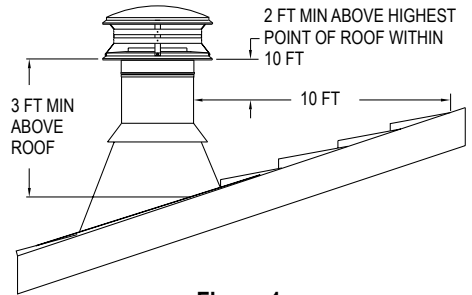
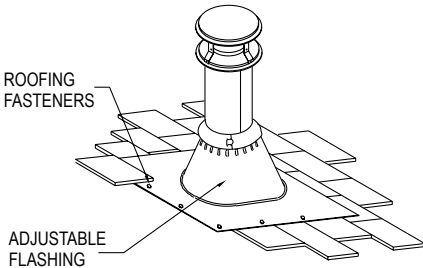
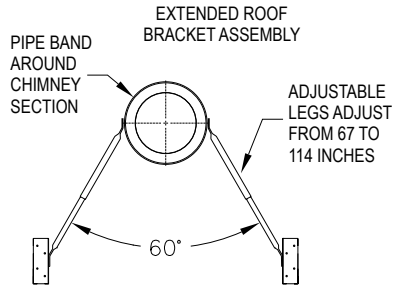

Figure 1
Figure 12
Figure 16
The National Fire Protection Association Standard #211 states: "Chimneys shall extend at least three feet above the highest point where it passes through the roof of a building, and at least two feet higher than any portion of a building within ten feet." (Fig 1) DuraTech Chimney may be installed up to 60 feet high. If the chimney extends more than 5 feet above
chimney above the roof. Allow space to permit sliding the next Chimney Section up through the Flashing. Always insure the chimney remains vertical (use a level), and that at least a 2-inch clearance to combustible materials is maintained all around. Install the upper edge of the Flashing under the roofing. Nail to the roof along the upper edge and down each side with 1-inch roofing nails. Do not nail the lower edge of the Flashing (**Fig 12**). Seal top and upper sides of flashing with roofing compound or sealant. Be sure to follow local building practices, as needed. Seal all nail heads with a non-hardening waterproof sealant. On flat or tarred and graveled roofs, nail and seal the Flat Roof Flashing to the roof on all sides with roofing compound. Do not put screws through the Flashing into the Chimney Pipe.
10. Finish Top: Apply a high-temperature (500°F), non-hardening waterproof sealant around the chimney at the point where the Storm Collar will meet the chimney just above the Flashing. (**Figures 12 and 13**). Slide the Storm Collar down over the chimney to the top of the Flashing. Tighten and seal the Storm Collar against the sealant. After installing sufficient Chimney Sections to meet the height requirement (**Fig 1**), attach the Chimney Cap onto the top of the chimney by holding the collar of the cap and twist locking it clockwise onto the chimney. Do not hold upper portion of the cap and twist, as this may damage the cap. The Chimney Cap can be removed for chimney cleaning as described in the Chimney Maintenance section of the instructions. Use an Extended Roof Bracket if the chimney extends more than 5 feet above the roof. (**Figures 16 & 17 in the Extended Roof Bracket section**). If you are located in heavy snow country, it is recommended that a Snow Splitter be installed. The Snow Splitter can be purchased from DuraVent or fabricated locally
- 2. Attach the Legs:** The Adjustable Legs of the assembly will adjust from 67" to 114". Secure one end of each Leg to the Pipe Band using the nuts and bolts included (2 per Leg). Position the Adjustable legs so they form approximately a 60° angle with the chimney, and with each other (**Figures 16 and 17**). Be sure that there is at least 3" of overlap between the top and bottom halves of the Adjustable Leg. In order to secure Legs in proper position, there is a hole provided in the outer leg where the outer and inner halves overlap. Use a 1/4" drill bit to drill through the inner leg at that location. Use the nut & bolt provided to pin the Adjustable Legs in position.
- 3. Install Roof Brackets:** Mount the two Roof Brackets where each of the Adjustable Legs meets the roof, using (4) 1" roofing nails or screws per bracket. Seal the nail heads carefully with a non-hardening, waterproof sealant. Attach the bottom end of the